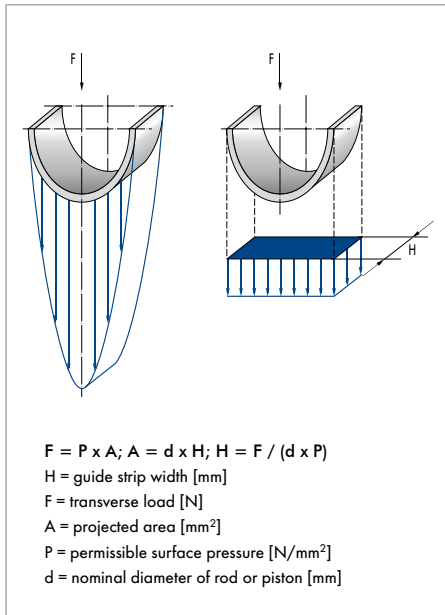

Fig. 10 Guide width
If the magnitude of the normal force applied in the area of the guide element is defined, the minimum required guide width (H) can be specified (→ Fig. 10).